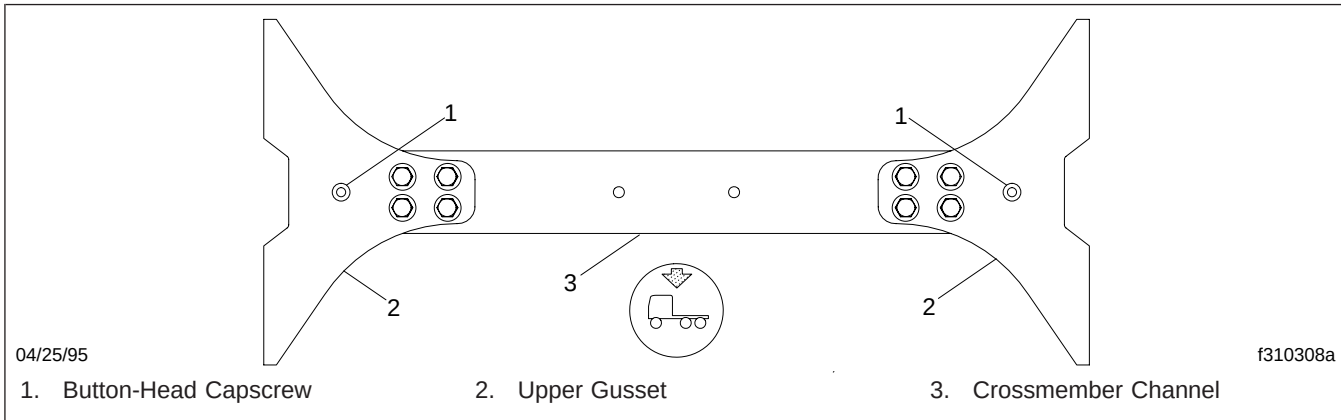

Fig. 5, Five-Piece Bolted Crossmember, Top View
1. Attach one new upper gusset to the crossmember channel. Tighten the fasteners snugly, but not to final torque value. See Fig. 5.